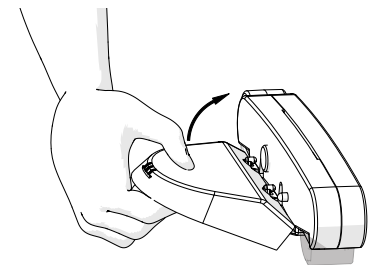

Fig. 15
4. Remove the wing by tilting it toward the pod and placing pressure up (See Fig. 15).